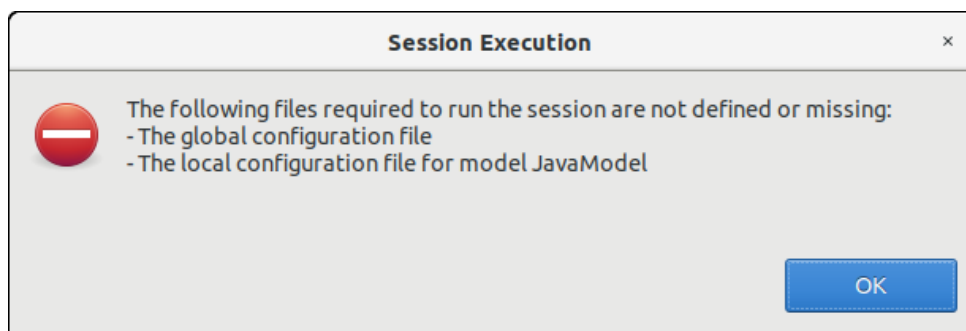

Figure 4-109: Execution prevented due to missing configuration files
- ❑ If the global configuration file for the simulation, or the local configuration file of any active module in the simulation is missing, the execution will not proceed, and a dialog will be displayed listing the missing files as shown in Figure 4-109.